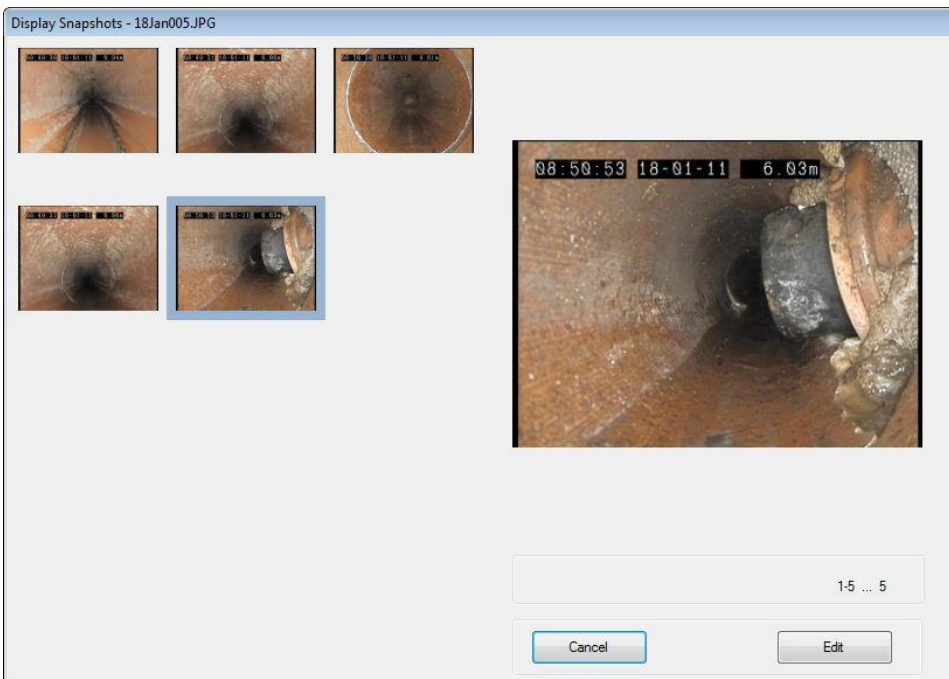

Figure 4.5 Display Snapshots
- To quickly identify a specific picture press **Display Snapshots** to open a window displaying snapshots for all the pictures present in the survey folder (see Figure 4.5)